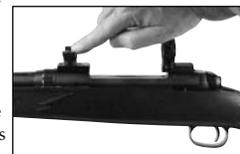

Figure 2
- b. Apply lapping compound to the inside of both halves of the rings (Figure 2).